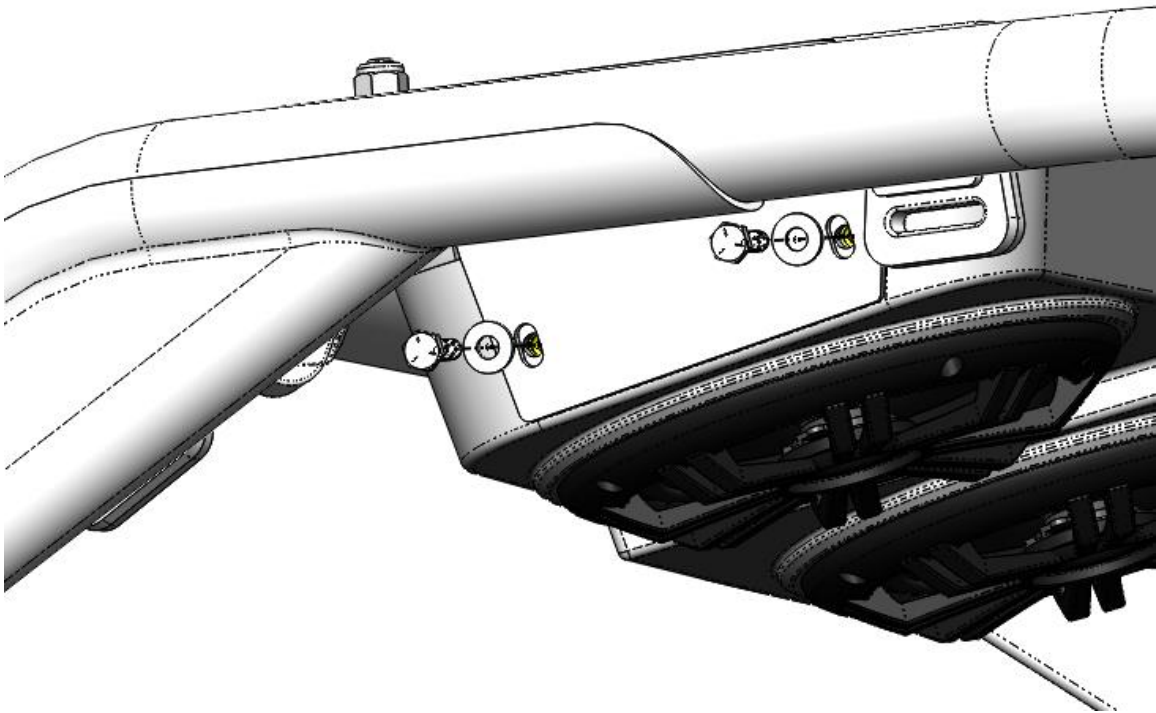
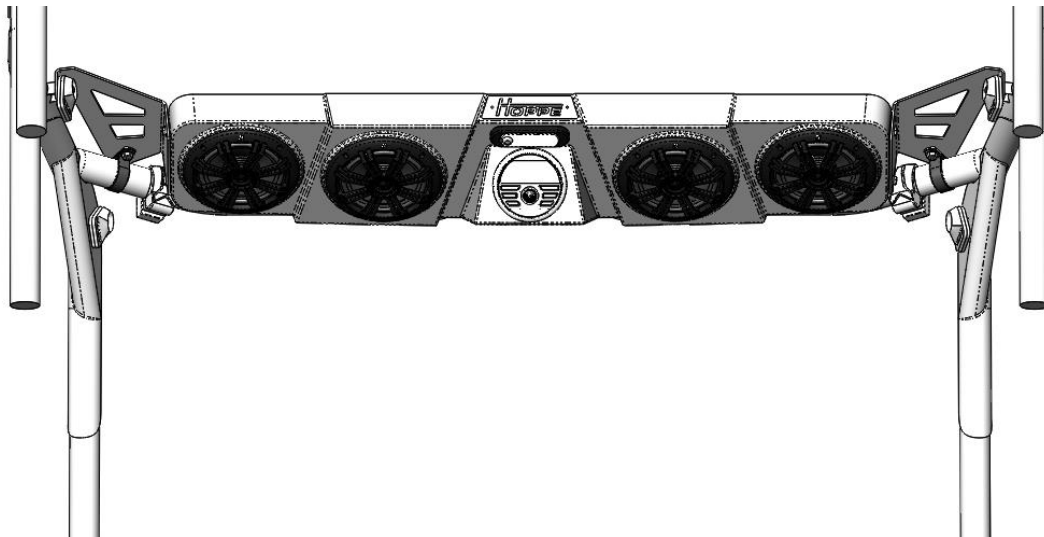

Figure 6: Install the 1/4\"-20 bolts and washers to mount the Audio Mini to the brackets.
Figure 7: Loosely install the sound system on the mounting brackets.
5. Using an assistant, hang the *Audio Mini* off-road sound system on the brackets using the supplied 1/4"-20 bolts and washers (loosely tightened). **Note: The sound system weighs up to 25 lbs. Since you will have to lift and bolt each end, it is helpful to have an assistant for this step.** See Figure 6 and Figure 7.